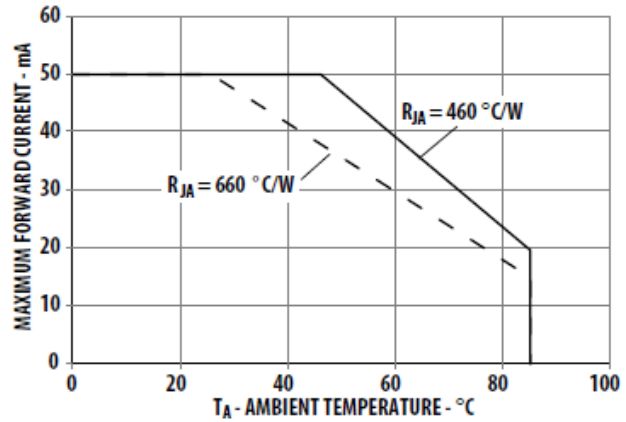
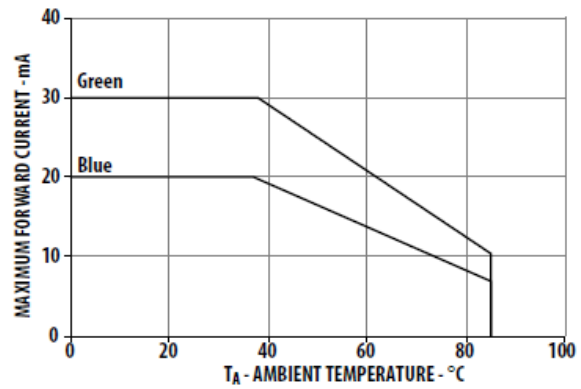

Figure 4: Maximum Forward Current vs Ambient Temperature
Figure 9: Maximum Forward Current vs Ambient Temperature
1. Derate linearly as shown in Figure 4 and Figure 9.